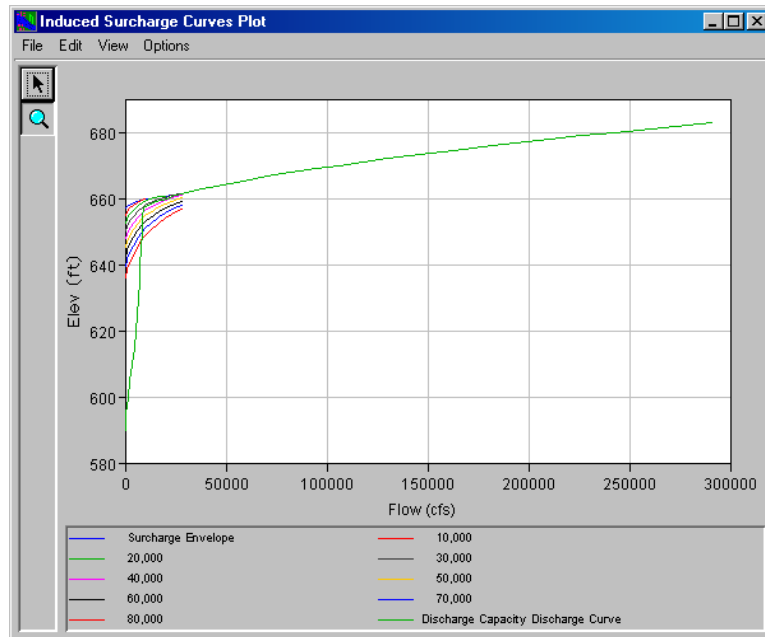

Figure 11.23 Plot of Computed Induced Surge Curves
5. Select **Plot Surge Curves** to see plots of the computed Induced Surge Curves (Figure 11.23) based on the data you have entered.